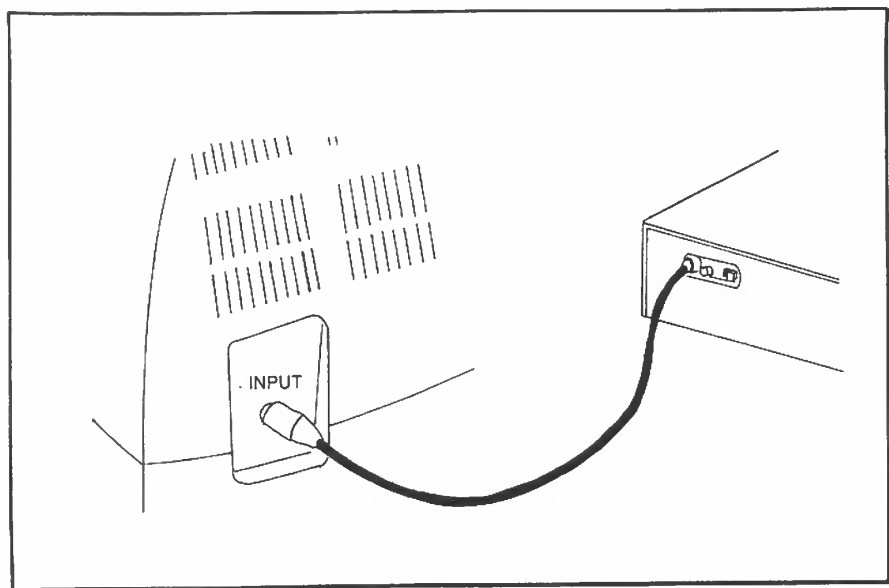

Figure 7.3 Connecting the disk/video interface to a monitor
5. If a video monitor is being used, plug the supplied coax cable between the monitor input and the jack marked *To Monitor* on the rear of the Disk/Video Interface (see Figure 7-3).